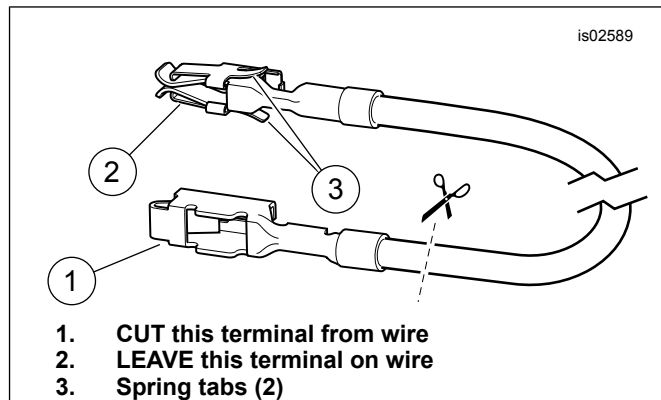

Figure 24. Fuse Block Adapter Wire (Dyna and Softail)
1. See Figure 24. the "two into one" splice configuration. Get a **red** sealed splice connector (see Figure 34, Item 4) from the kit. Splice the black wire (13) from the kit to the black transmitter ground wire per the service manual appendix. Slip the conduit (10) from the kit over the spliced ground wire.
4. Select the smaller diameter ring terminal (7) from the kit. Crimp the ring terminal onto the black transmitter wire per the Packard crimping tool instructions in the service manual appendix.
6. See Figure 24. The "one into one" splice configuration. Get a **blue** sealed splice connector (see Figure 34, Item 5) from the kit. Splice the garage door opener wire harness power lead to the adapter wire per the service manual appendix.
3. See Figure 34. Get the orange/white fuse block adapter wire (12) from the kit. Note the terminal on each end (see Figure 24). Only the terminal with the spring tabs fits into this fuse block. Carefully cut the unused terminal from the wire and discard.